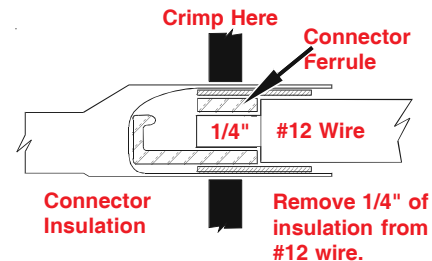

Figure 1
**STEP 3.** Make +12 volt connection to wall plate/power supply Figure 2. Install terminals on wires from +12VDC source as shown in Figure 1. Crimp terminals with Craftsman type 4 crimping tool or equivalent. Push wires onto tabs on terminal board as shown in Figure 2. If in doubt as to the polarity of the wires, connect them temporarily to tabs on circuit board and press switch on front of outlet. If light comes on, polarity is correct. See Figure 3.